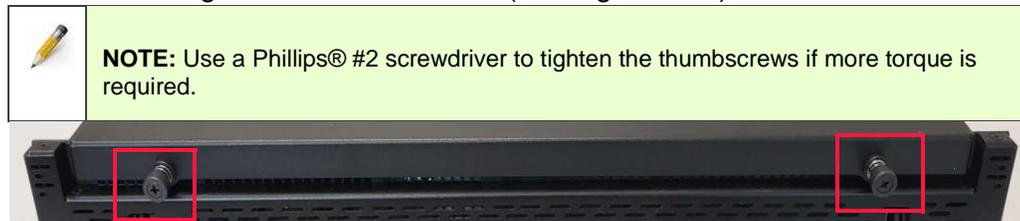

Figure 3.19 Top cover thumbscrews
3. Finger tighten the left and right enclosure top cover thumbscrews located at the front edge of the chassis cover (see Figure 3.19).